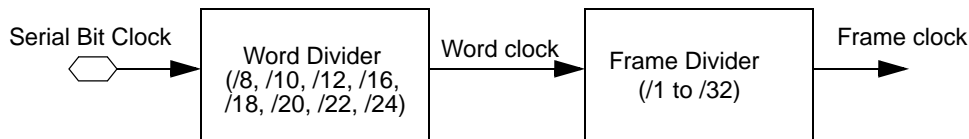

Figure 16-11. SSI Clocking
In Normal mode (`SCR[6:5]=00`), the bit clock, used to serially clock the data, is visible on the Serial Transmit Clock (STCK) and Serial Receive Clock (SRCK) ports. The word clock is an internal clock used to determine when transmission of an 8, 10, 12, 16, 18, 20, 22 or 24 bit word has completed. The word clock in turn then clocks the frame clock, which counts the number of words in the frame. The frame clock can be viewed on the STFS and SRFS frame sync ports, because a frame sync is generated after the correct number of words in the frame have passed. In master and synchronous mode, the unused port SRCK is used as Serial System Clock (SYS_CLK) enabled by the SCR register bit 15, `SYS_CLK_EN`. This Serial System Clock is an oversampling clock of the frame sync clock (STFS). In this mode, the word length (WL), Prescaler Range (PSR), Prescaler Modulus (PM) and Frame rate (DC) selects the ratio of `SYS_CLK` to sampling clock STFS. In case of I²S mode, the oversampling clock `ccm_ssi_clk` can be made available on this port if the `SYS_CLK_EN` bit is set. The relationship between the clocks and the dividers is shown in Figure 16-11 (“SSI Clocking”).